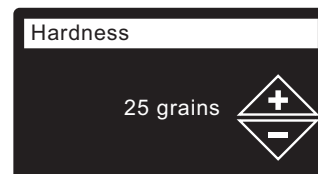

FIG. 22
- HARDNESS** Press the UP (▲) or DOWN (▼) buttons to set the value of your water's hardness (See Figure 22).